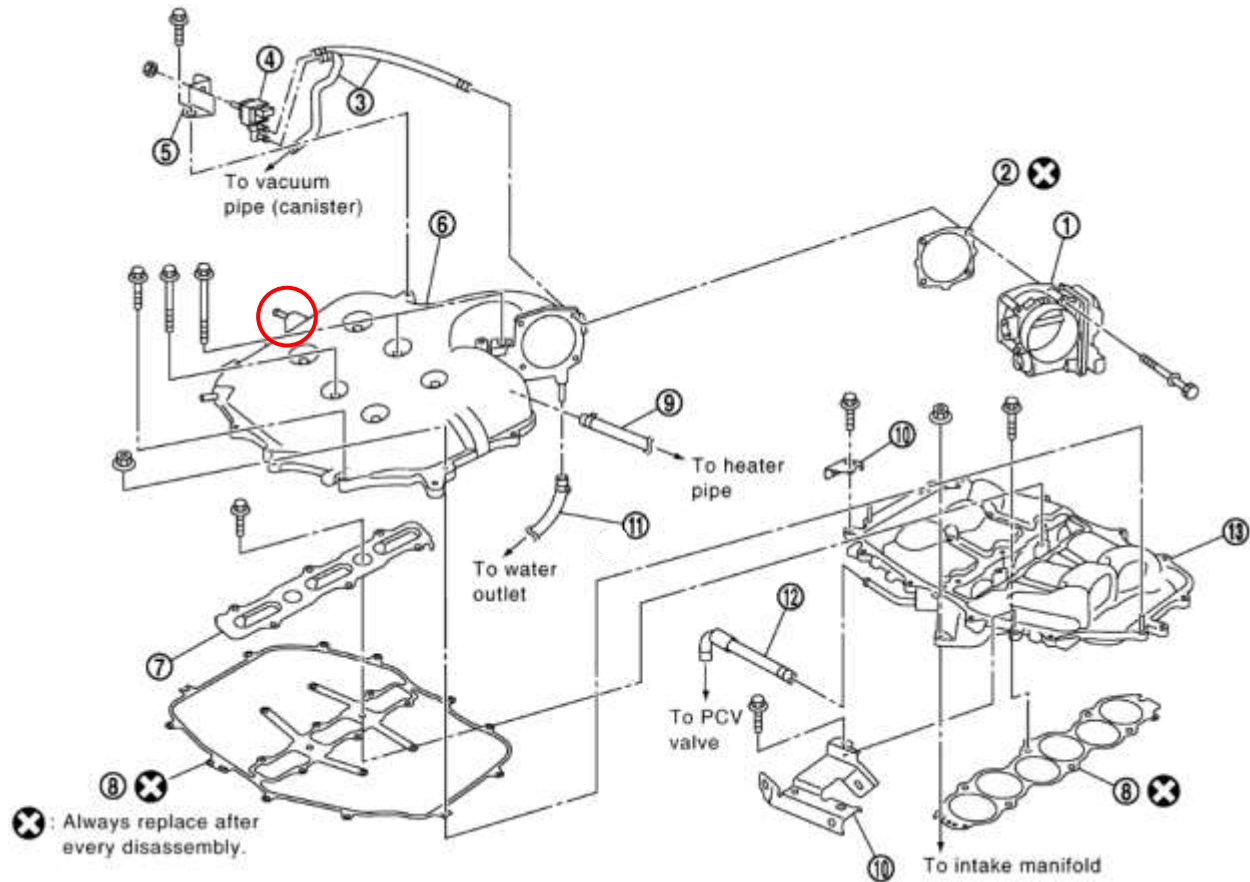

Figure 23
Use Figure 23 below as reference for the following steps:
4. If a Coolant Bypass has been installed you can skip to Step 5, otherwise ensure engine is cold. Loosen the hose clamps and remove (2) two water hoses (9) & (11) running to rear of Upper Plenum (6). Plug hoses to prevent coolant leakage. *Figure 23.*
5. Disconnect electrical connector at Throttle Body (1). *Figure 23.*
6. Loosen the hose clamp and remove the vacuum hose at the side of the Upper Plenum, circled above in *Figure 23.*
9. Remove (1) one bolt securing the bracket (5) to Upper Plenum. *Figure 23.*
10. Loosen the hose clamp and remove the Vacuum Hose (3) from the port on the back of the Upper Plenum. *Figure 23.*
12. Loosen the hose clamp and remove the PCV Hose (12) at the front of the Lower Plenum (13). *Figure 23*